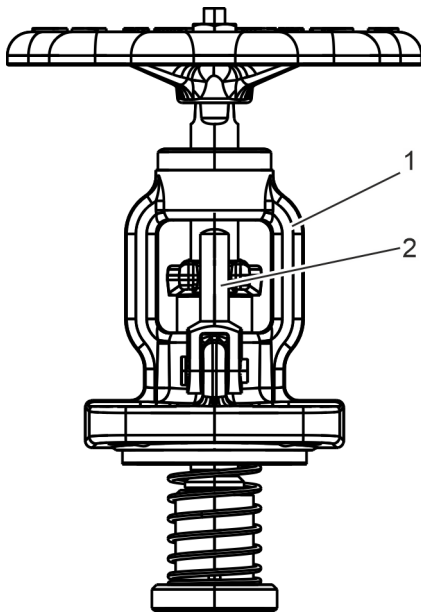

Fig. 26: Taking off the bonnet
5. ▶ Detach the complete bonnet (Fig. 26/1) including the stem (Fig. 26/2) from the body with the hoist.